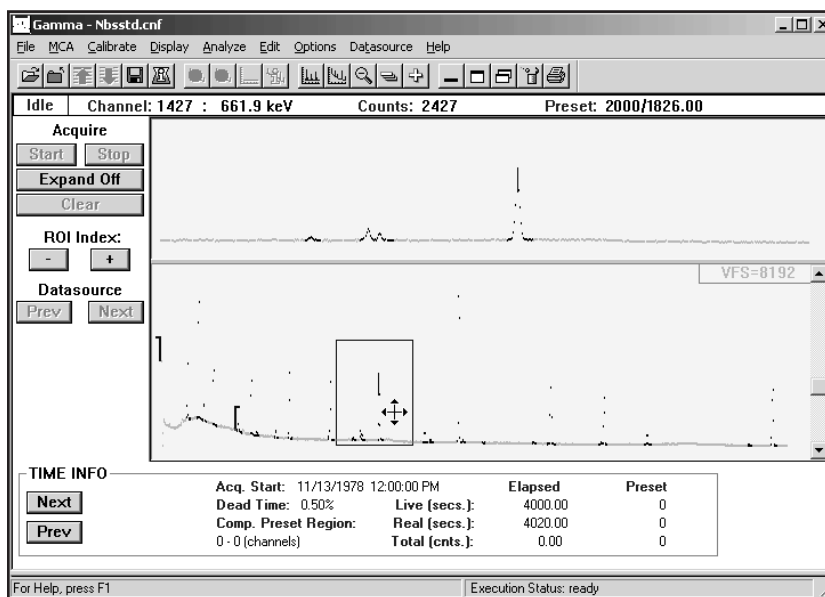

Figure 18 Expand Has Been Turned On
The result will be a display like the one in Figure 18. The Reference Spectrum, the lower half of the display, contains the full spectrum and the Expanded Region, the upper half of the display, shows the expanded data.
At the spectrum cursor's location in the Reference Spectrum, you'll see a large rectangle in the spectrum (Figure 18). What you see in the Expanded Region is the data within the rectangle.
1. Move the mouse cursor into the rectangle; it will change into the four-headed arrow  shown inside the Expand Rectangle in Figure 18.